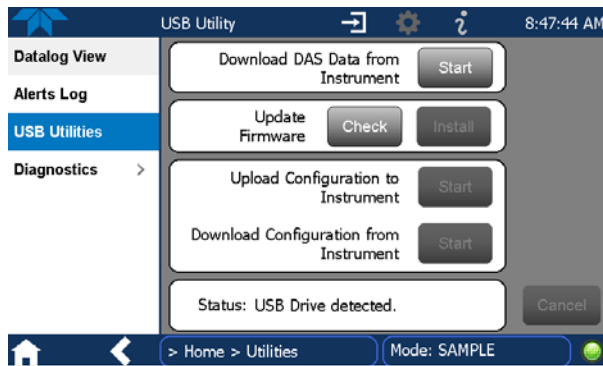

Figure 3-11. DAS Data Download
2. Insert a flash drive into a front panel USB port and wait for the Status field to indicate that the drive has been detected and available buttons are enabled (Figure 3-11).